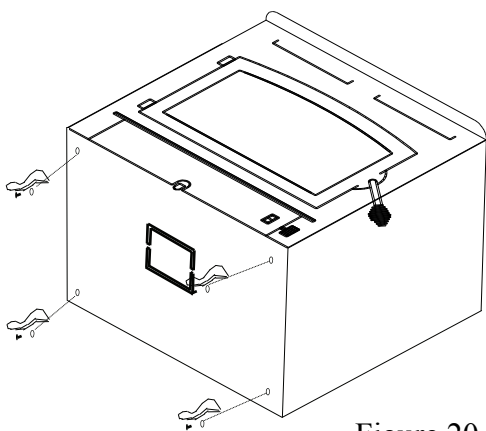

Figure 20
6. Then obtain four legs, attach the legs to holes in bottom of unit with bolts and washers supplied with the leg kit. (See Figure 20.)